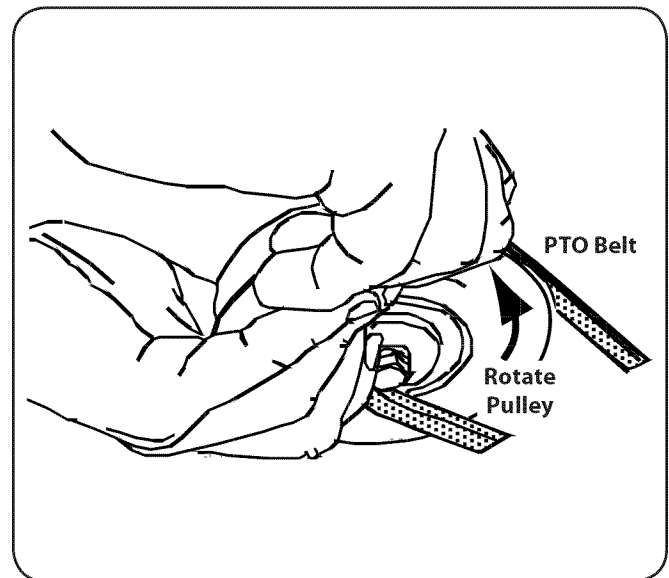

Figure 7-8
8. While holding the belt and pulley together, rotate the pulley to the left. Continue holding and rotating the pulley and belt until the belt is fully rolled into the PTO pulley. See Fig. 7-8.